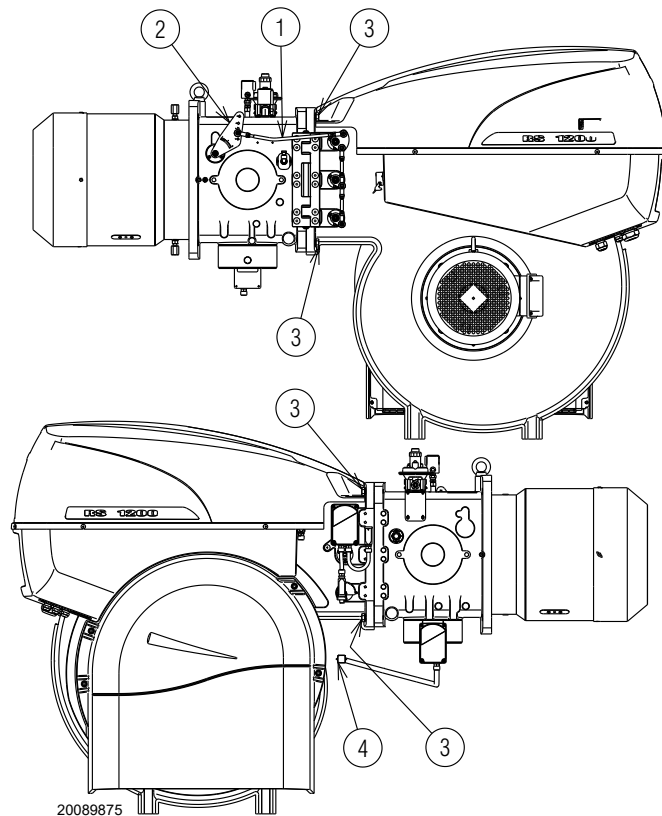

Fig. 32
- Remove the tie-rod 1)(Fig. 32) of the head movement lever, undoing the nut 2).